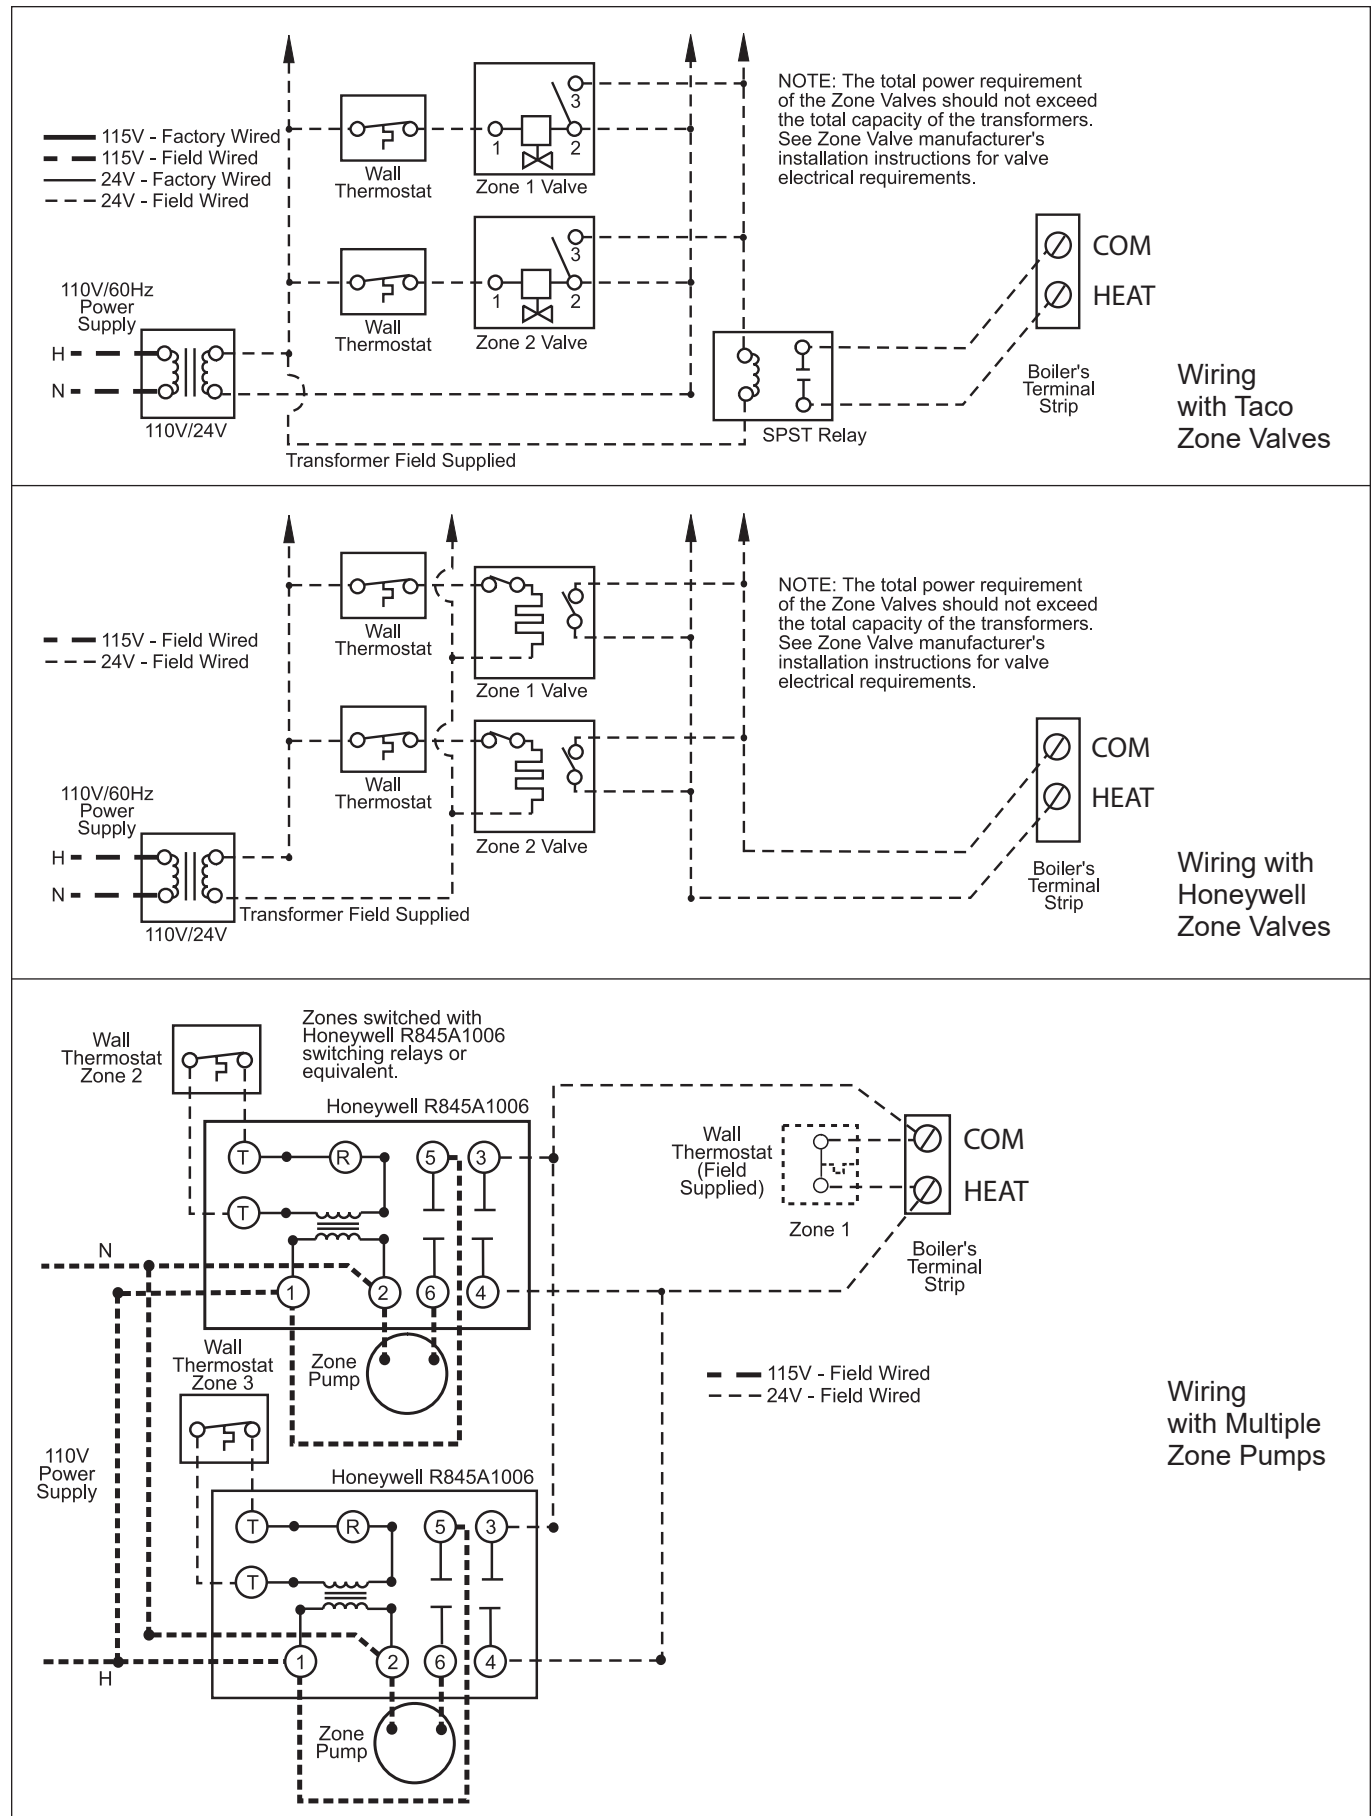

Figure 17. Multiple Zone Wiring.
6. For systems with multiple zone pumps or valves (see **Figure 17**).